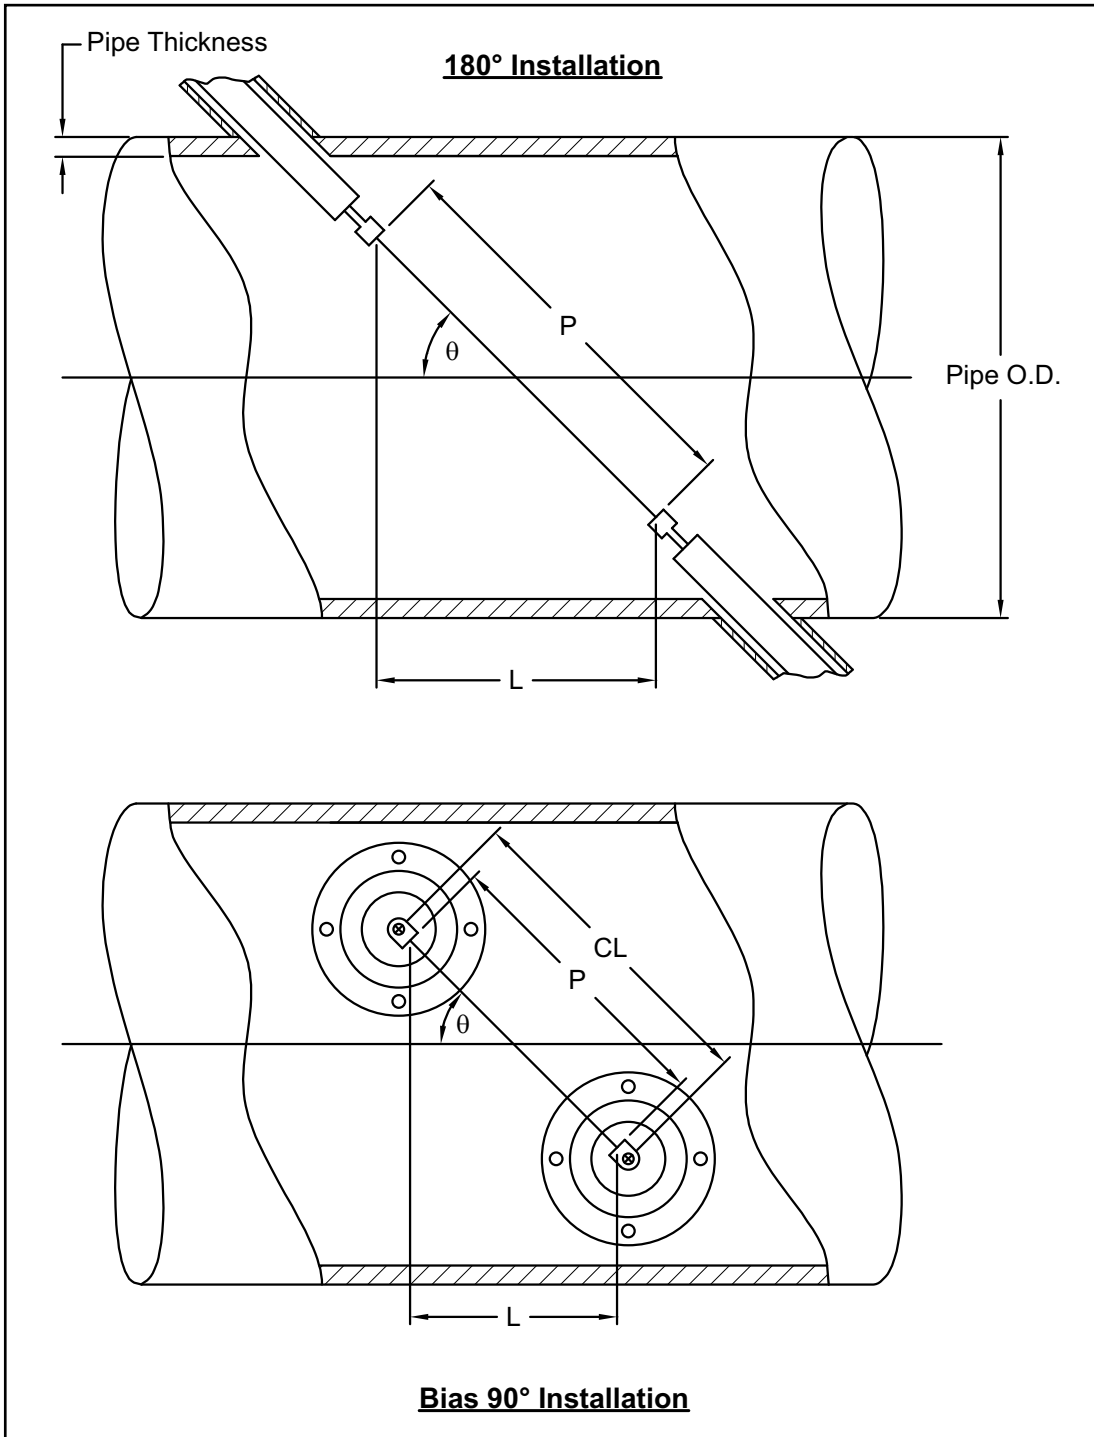

Figure 18: Top View of Transducer Installations
The accuracy of the programmed P and L values is critical to precise flow rate measurements. If Panametrics supplies the flowcell for the system, the correct values will be included in the documentation supplied with the unit. For transducers installed on an existing pipe (see Figure 18 on page 56), P and L must be measured at the site. This appendix provides instructions for properly determining these dimensions.
Whenever possible, physically measure the face-to-face distance (P) and the axial distance (L) between the centers of the flat faces of the transducers. Refer to Figure 18 on page 56 for an illustration of the proper distances to measure in a typical installation.
With a Bias 90° transducer installation, it sometimes happens that the only known parameters are the transducer angle (θ) and the centerline distance between the transducer bodies (CL). In these cases, it is still possible to calculate both P and L by combining Equation D-1 above with Equation D-2 below (see Figure 18 on page 56):